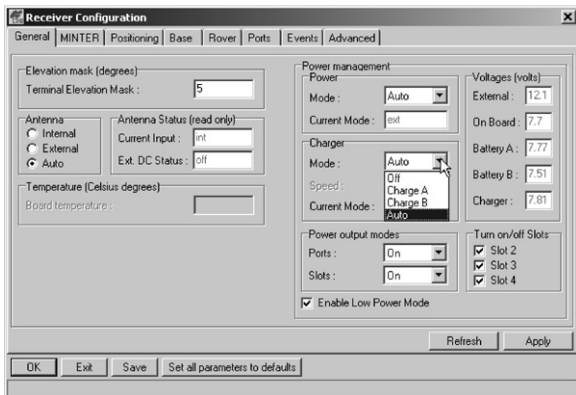

Figure 2-14. Select Charger Mode
4. Select the Charger Mode drop-down list to set the desired charger mode (Figure 2-14). Current Mode displays the charging battery.